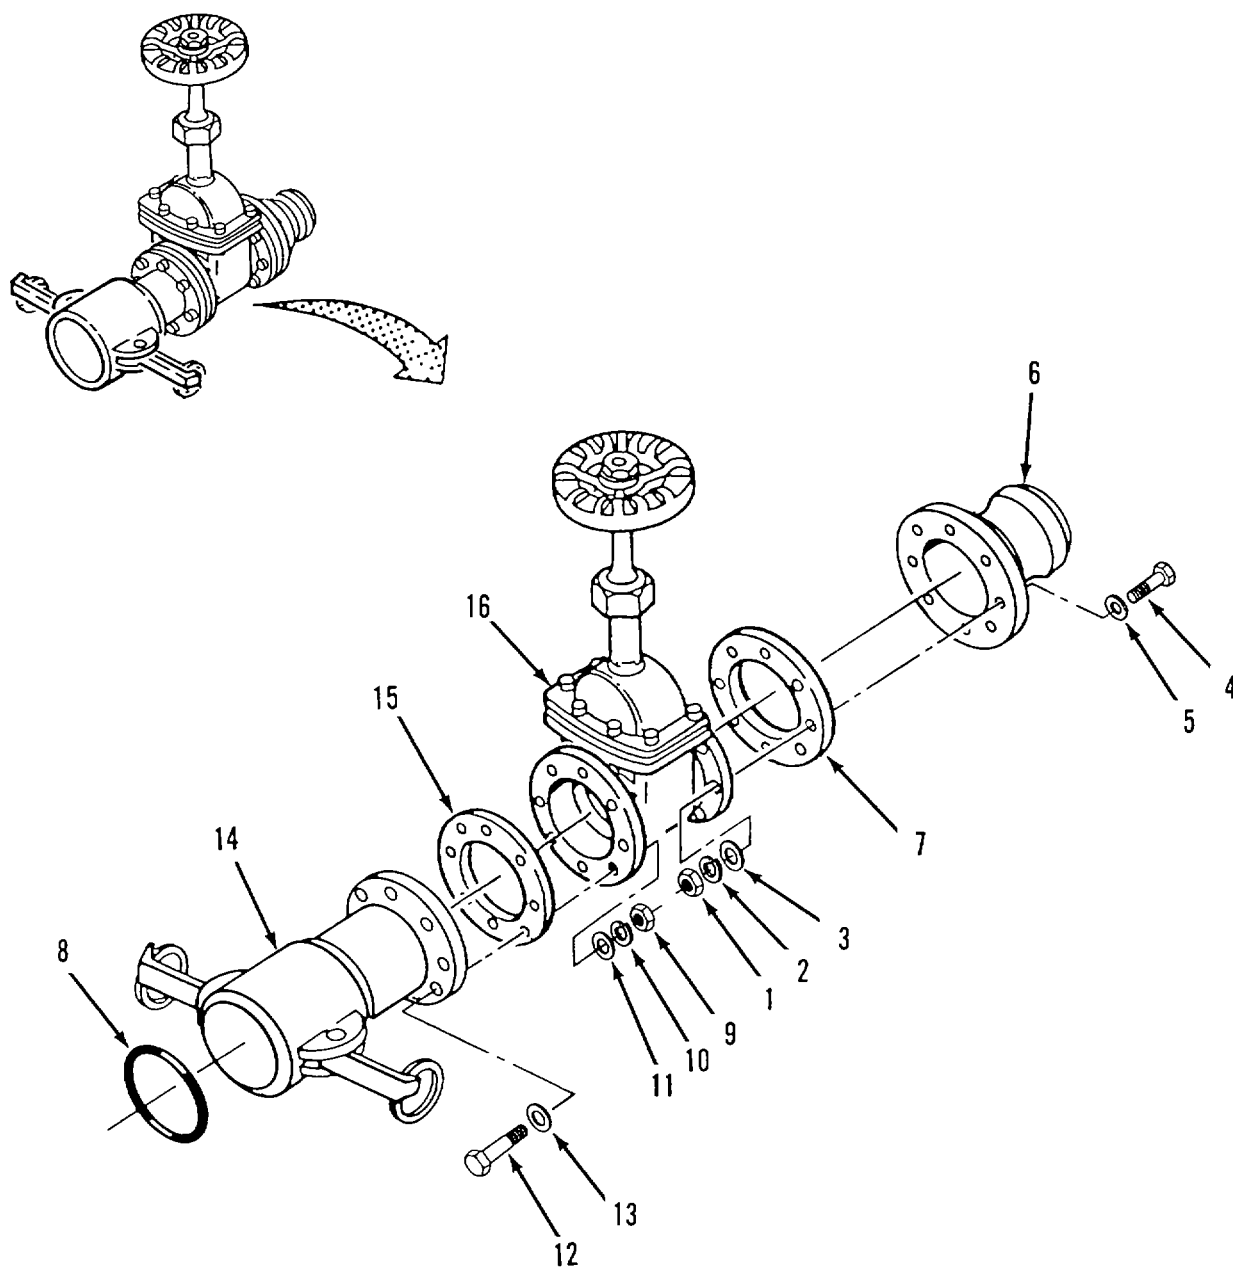

Figure 4-11. Gate Valve (4-inch) Disassembly
*Remove gate valve Refer to figure 4-11*
- (1) Remove eight nuts (1), lockwashers (2), flat washers (3), screws (4) and flat washers (5).
- (2) Separate male coupling (6) and gasket (7) from gate valve (16).
- (3) Remove gasket (8) from female coupling (14).
- (4) Remove eight nuts (9), lockwashers (10), flat washers (11), screws (12) and flat washers (13).
- (5) Separate female coupling (14) and gasket (15) from gate valve (16).
- (1) Inspect bonnet (11) and valve body (18) for cracks, scored mating surfaces, stripped threads and corrosion.
- (2) Inspect for bent stem (13) and galled or stripped threads.
- (3) Inspect sealing surfaces of discs (15 and 16) and valve body (18) for deep scratches and cracks.
- (4) Inspect male coupling (6, figure 4-11) for cracks and corrosion
- (5) Inspect female coupling (14) for cracks and broken locking arms
- (2) While holding stem (13) in place, screw disc riser (17) onto stem until bottom of riser is flush with end of stem.
- (3) Position discs (15 and 16) on riser (17) and install two screws (14).
- (4) While preventing stem (13) from turning in bonnet (11), turn discs (15 and 16) and riser (17) left (counterclockwise) onto stem until top of discs contact flanged bottom of bonnet.
- (5) Position gasket (12) on valve body (18).
- (6) While holding stem (13) in position, lower bonnet (11) and discs (15 and 16) into valve body (18). Do not rotate discs more than 1/4 turn to align discs with body.
- (7) Install eight flat washers (10), screws (9), lockwashers (8) and nuts (7) in valve body (18) and bonnet (11).
- (8) Slide packing ring (6) over stem (13) and down into bonnet (11).
- (9) Slide packing gland (5) and gland spring (4) over stem (13).
- (10) Slide packing nut (3) over stem (13) and tighten onto top of bonnet (11).
- (11) Position handwheel (2) on stem (13) and secure with nut (1).
*Install gate valve. Refer to figure 4-11.*